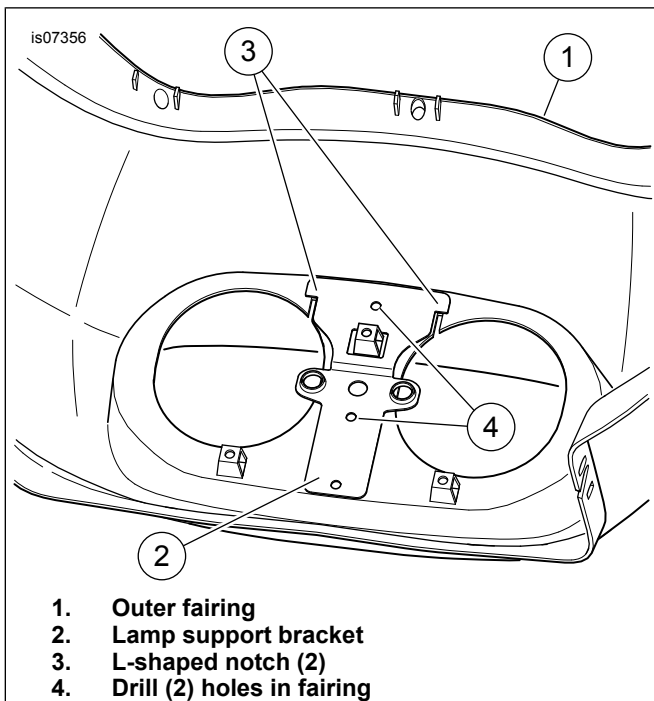
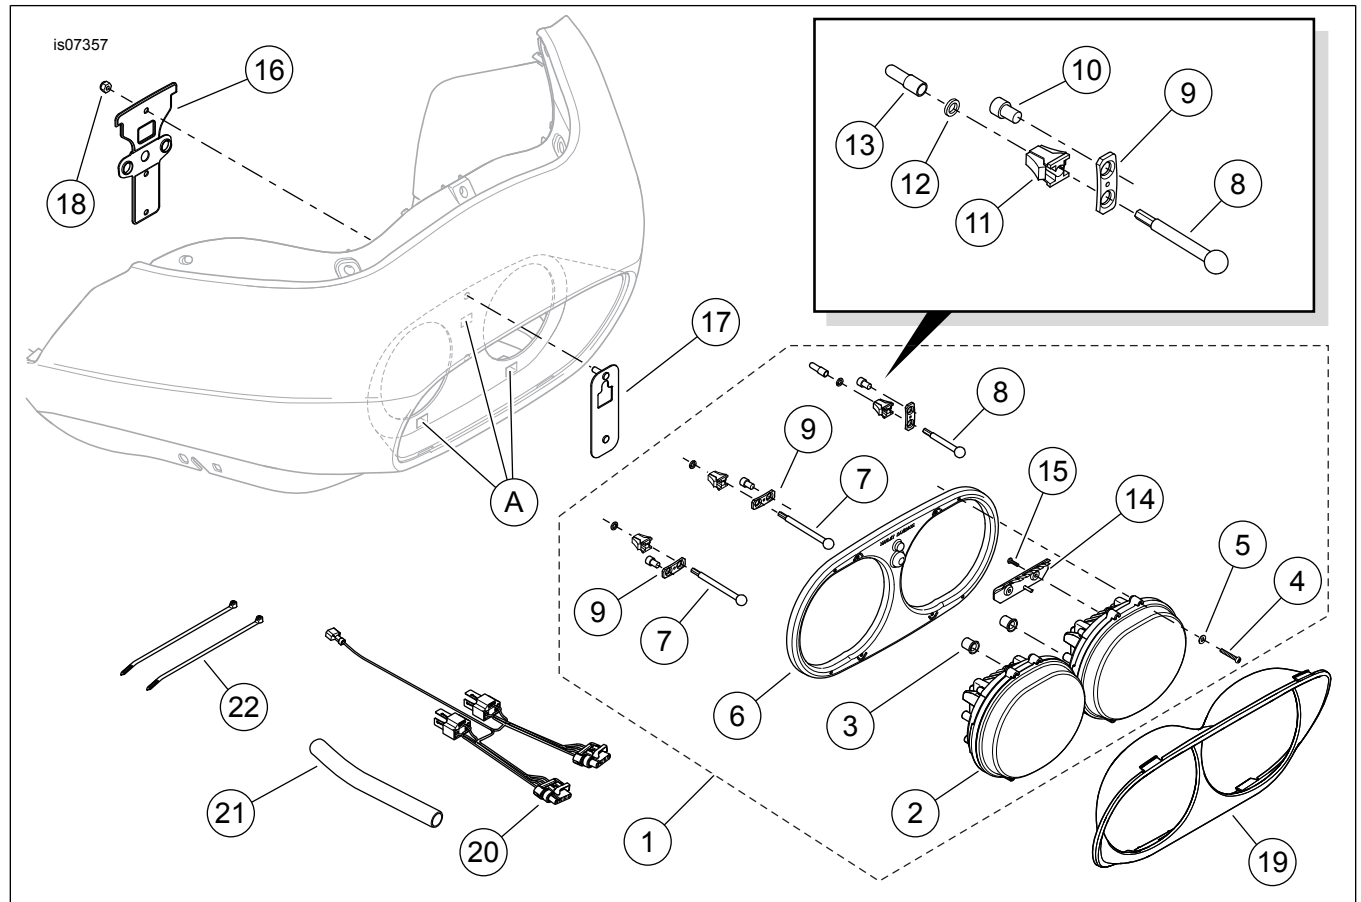

Figure 1. Install Lamp Support Bracket
Figure 2. Service Parts, FLTR Oval LED Headlamp Kits
See Figure 2 and Table 1.
3. See Figure 2. Get the lamp support bracket (16) from the kit. Test-fit the bracket to the back side of the outer fairing, between the headlamp openings as shown in Figure 1 before installation. Do not remove the liners until ready to apply the bracket.
4. Clean the bracket mounting area on the fairing (1) with a 50-50 mixture of isopropyl alcohol and distilled water. Allow to dry thoroughly.
5. Remove the liners from the adhesive backing of the lamp support bracket (2). Carefully position the bracket to the back side of the outer fairing, aligning the edges of the L-shaped notches (3) with the edges of the slots in the fairing. Press the bracket firmly into place. Hold the bracket in position with steady pressure for about one minute.
6. Using the bracket holes (4) as a guide, drill two 6.8 mm (17/64 in) to 7 mm (9/32 in) diameter holes in the fairing.
8. See Figure 2.
- a. Get the front support plate (17) and two lock nuts (18) from the kit.
9. Remove the thread protector cap (13) from the upper adjusting screw (8).
- a. Align the adjusting screws (7 and 8) with the holes at the base of the three pockets (A) in the dual headlamp bezel (6). Start the screw threads into the holes.
- b. Align the three headlamp mounting clips (11) with the sides of the pockets. Align the two bushings (3) with the holes in the LED lamp support bracket (16).
- d. The O-rings (12) should be seated squarely between the headlamp clips and the base of the pockets (A).